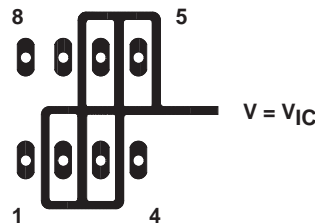

Figure 4. Isolation Metal Around Device Inputs
1. Isolate the device from other potential leakage sources. Use a grounded shield around and between the device inputs (see Figure 4). Leakages that would otherwise flow to the inputs are shunted away.